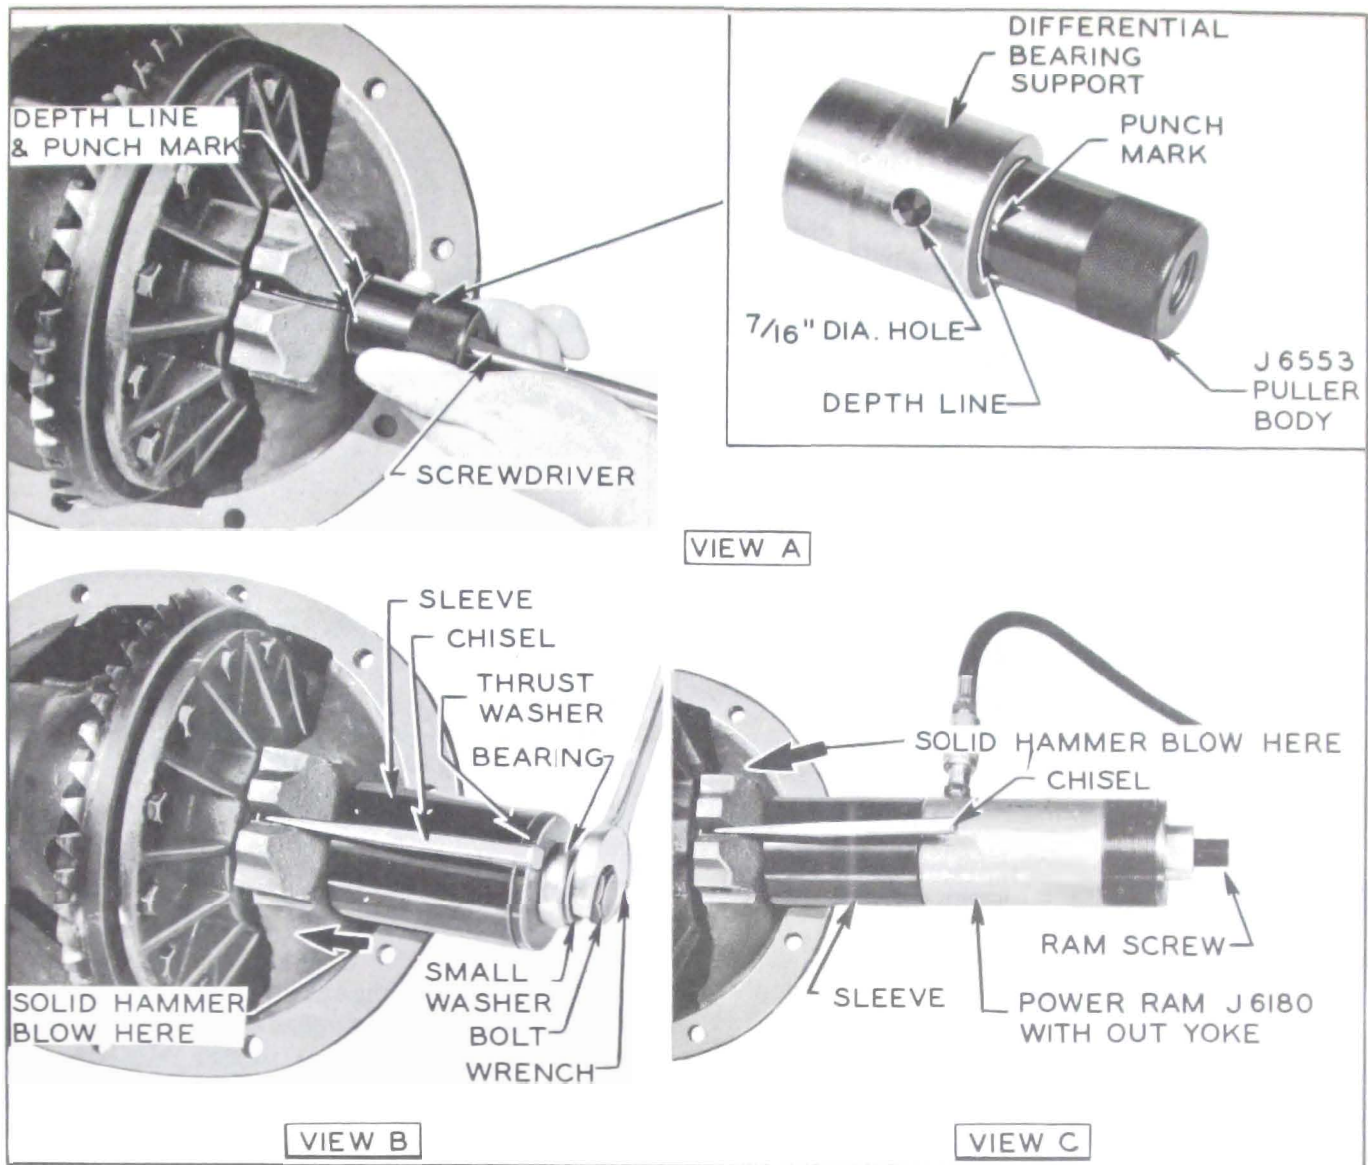

Figure 6-11—Removing Differential Bearing Support
(a) Using a screwdriver, turn expanding screw in puller body in a counterclockwise direction to retract pins, then insert puller body into differential bearing support until reference line on tool is flush with end of support and punch mark is in general direction of hole in support. See Figure 6-11, View A.
(1) Place sleeve over puller and install draw bolt with large thrust washer, thrust bearing, and small washer as shown in Figure 6-11,
View B; then thread draw bolt in tapped hole in puller body. Using a suitable wrench, apply a reasonable amount of torque to draw bolt; then strike carrier pedestal with a solid hammer blow as shown in Figure 6-11, View B.
(2) Place sleeve over puller and install hydraulic ram screw as shown in Figure 6-11, View C. Place a reasonable load on ram, then strike carrier pedestal a solid hammer blow in direction of heavy arrow.